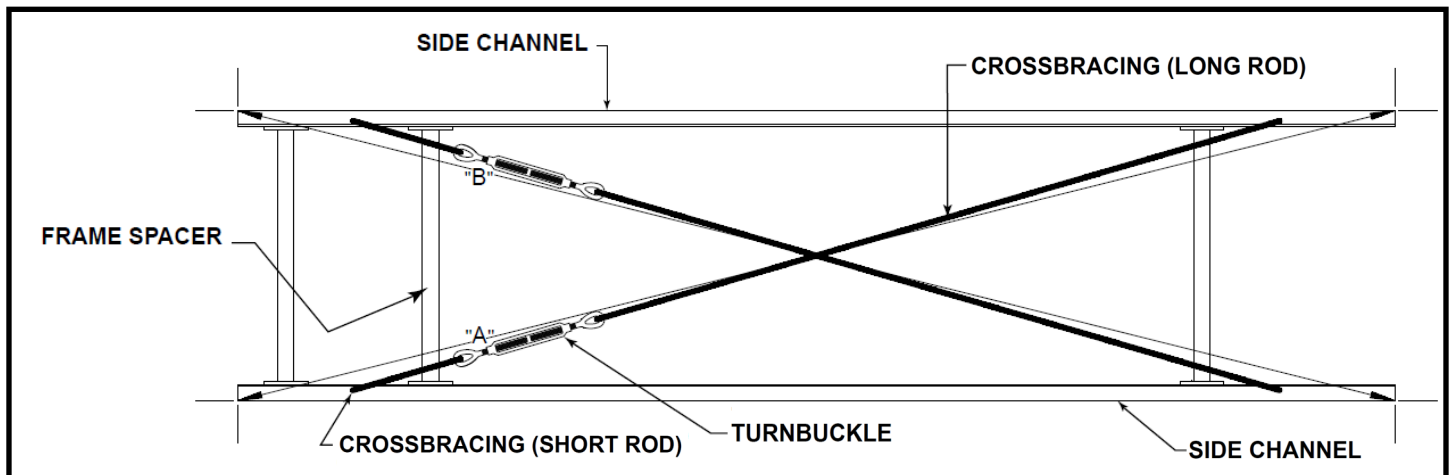

FIGURE 9.2
- 6) Check to ensure that the conveyor is square and level across the length (See Figure 9.2).
- 1) Measure diagonally from corner at one end to opposite corner on the other end. Repeat for other corner. The section will not be square if these dimensions are not equal. (See dimensions A & B in figure 9.2)